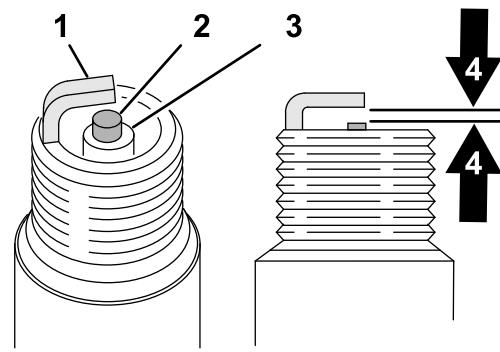

Figure 165
- Look at the center of both spark plugs (Figure 165). If you see light brown or gray on the insulator, the engine is operating properly. A black coating on the insulator usually means the air cleaner is dirty.